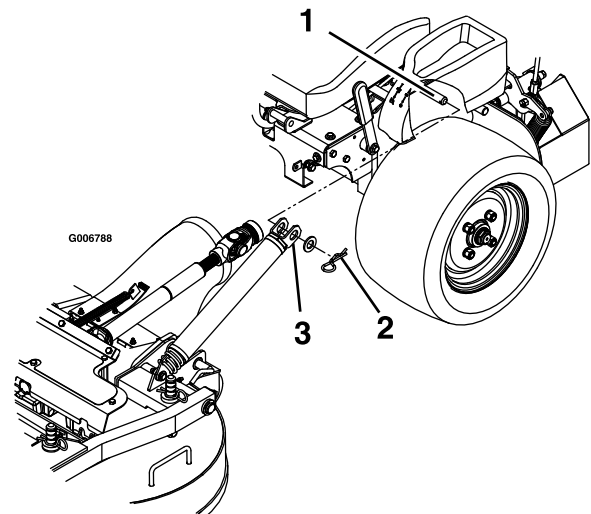

Figure 68
3. Remove hairpins and washers at the top of the deck lift assist spring on each side of the unit (Figure 68).
- Install the springs onto the spring anchor pins under the left and right consoles and secure with a washer and hairpin (Figure 68).